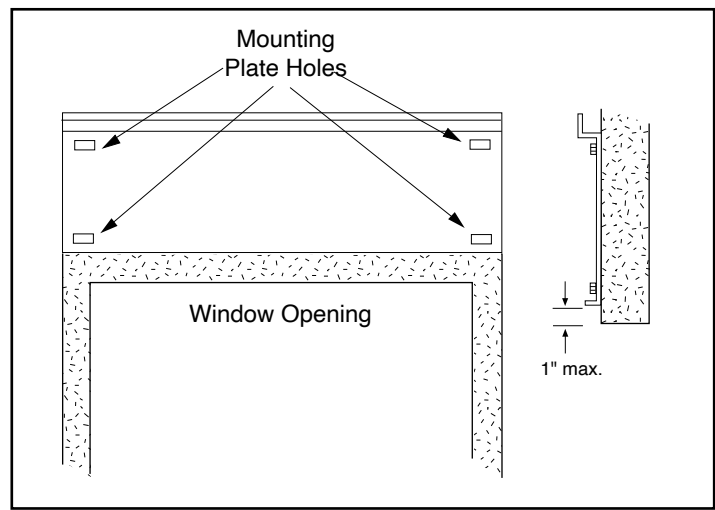

FIGURE 3 - Positioning of Mounting Plate
2. Mark and drill holes on the mounting plate where the wall will provide sufficient support for the air curtain. A minimum of four holes close to the corners is recommended. **See FIGURE 3.** The mounting hardware (supplied by others) must be capable of supporting a minimum of three times the net weight of the air curtain. **See WEIGHT CHART, TABLE 1.**